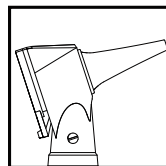

fig.3
- Put the otoscope with a tip into the ear canal of patient (**fig.3**), and examine through the viewing window which is with 3X magnification;